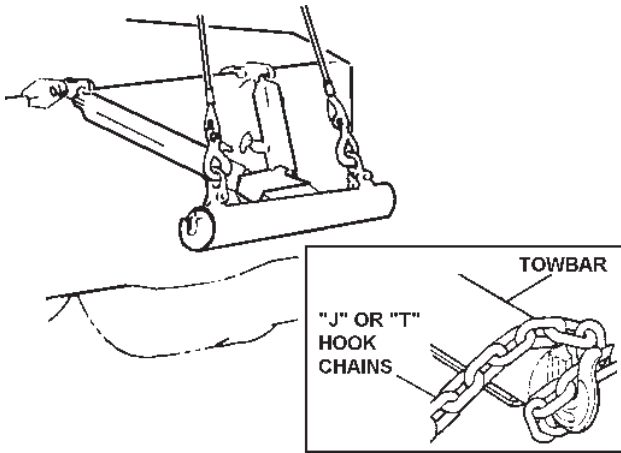

FIGURE 4.5
- (a) After preparations have been made, back the wrecker up to vehicle until the tow sling makes contact with bumper. Attach "J" or "T" hook chains to vehicle and towbar. See Figure 4.5. (Refer to "TOW SLING OWNER'S MANUAL" for recommended use of towing slings. For a more particular hook up, see vehicle "OWNER'S MANUAL" or the "AAA TOWING MANUAL").